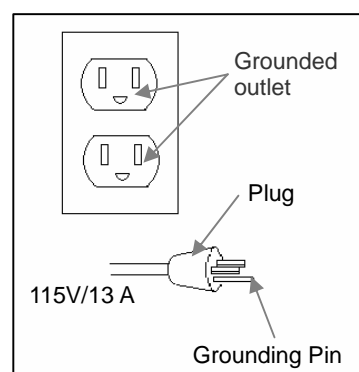

Figure 1
- K. POWER CORD:** This product is for use on a nominal 115 volt circuit and should be grounded. A cord with a grounding plug, as K showed, shall be used. Make sure that the product is connected to an outlet having the same configuration as the plug (see Figure 1). No adapter should be used with this product.